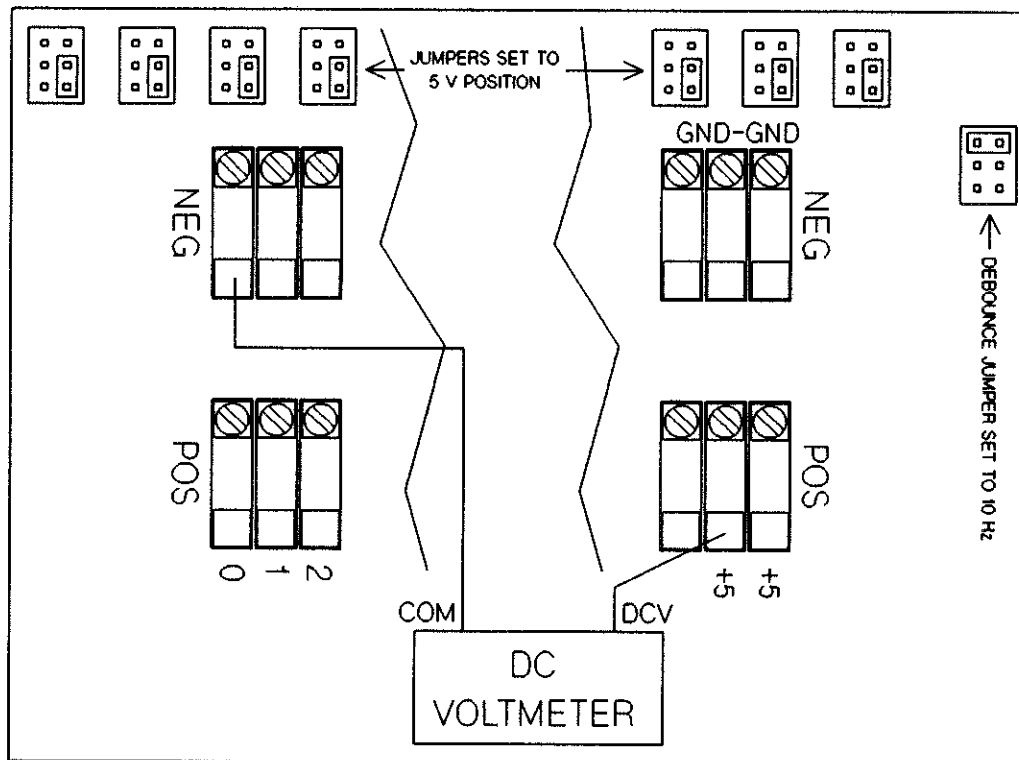

Figure 12-4 +5 V Supply Test
1. Set the voltmeter to measure 5 Vdc. Connect the voltmeter to the +5 supply and ground connections on the test fixture. The connections are shown in Figure 12-4.